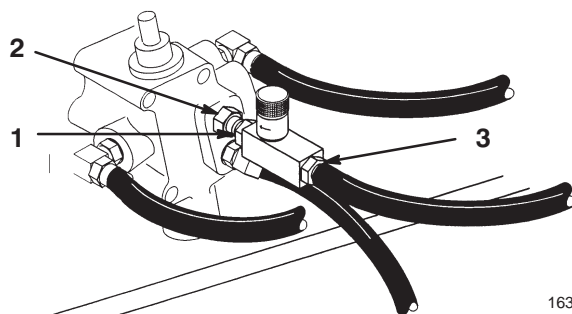

Figure 4
- Thread valve assembly swivel fitting onto the adaptor fitting in valve body (Fig. 4).
- Thread hose fitting, previously removed, onto the end fitting of the flow control valve assembly (Fig. 4).